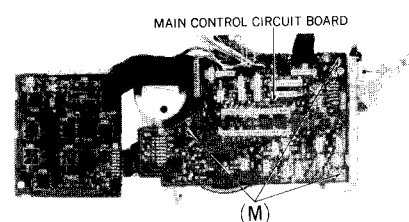

Fig. 8
㊨ Erase current Condition: * Tape selector ... Metal position * Record mode Equipment: * VTVM * Oscilloscope	- Test equipment connection is shown in fig. 8. - Place UNIT into record mode and measure voltage at test point 1. - Determine erase current with the following formula: $\text{Erase current (A)} = \frac{\text{Voltage across both ends of R272}}{1 (\Omega)}$ Standard value: $145 \pm 5\text{ mA}$ (Tape selector ... Metal) - If measured value is not within standard, adjust VR9.  Fig. 8